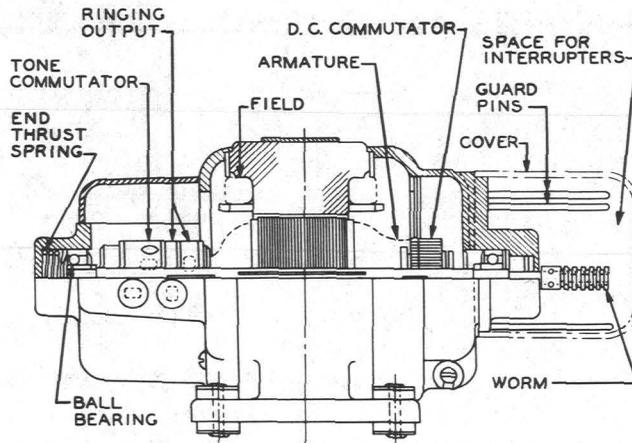

Fig. 1—Assembly (Holtzer-Cabot Machines)
1.01 This section covers the Holtzer-Cabot (Fig. 1) QD-type ringing machines per KS-5159,